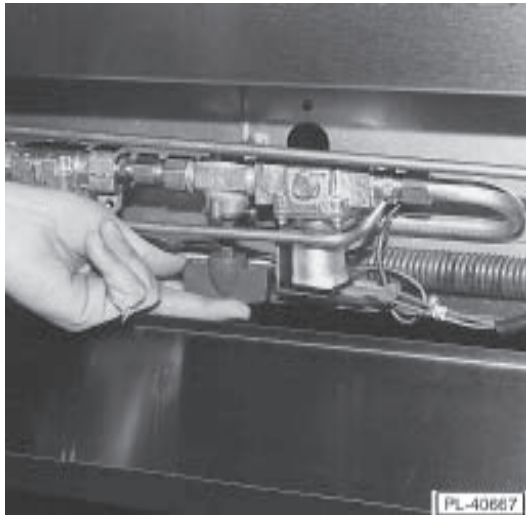

Fig. 21
2. Turn red gas valve ON (located behind the kick panel), purging the gas line of all air (Fig. 21). Turn gas valve and power switch OFF. Close oven door.